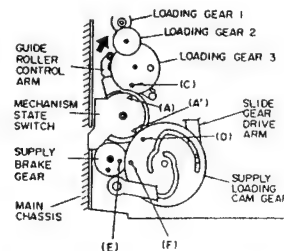

Fig. 3-2
- 2) Install the mechanism state switch in the condition set in step 1) into the main chassis. Check that mark (C) on the loading gear 3 and mark (A) on the mechanism state switch are aligned. (See Fig. 3-2)
Check that the guide roller control arm slides all the way in the direction of the arrow. (See Fig. 3-2)
- 3) Install the supply loading cam gear into the main chassis so that mark (E) on the supply brake gear and mark (F) on the supply loading cam gear are aligned. (See Fig. 3-2)